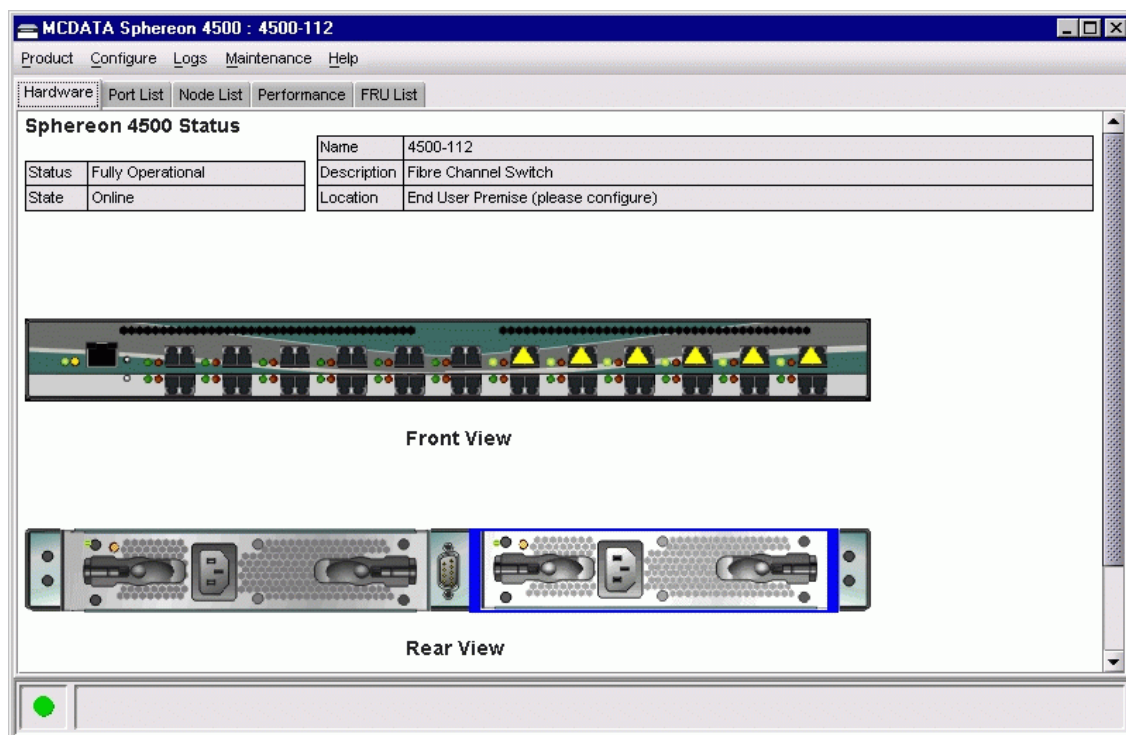

Figure 2-75 Hardware View
3. Select the *Element Manager* option from the pop-up menu. When the Element Manager application opens, the last view (tab) accessed by a user opens by default. As an example, the *Hardware View* (Figure 2-75) is shown.